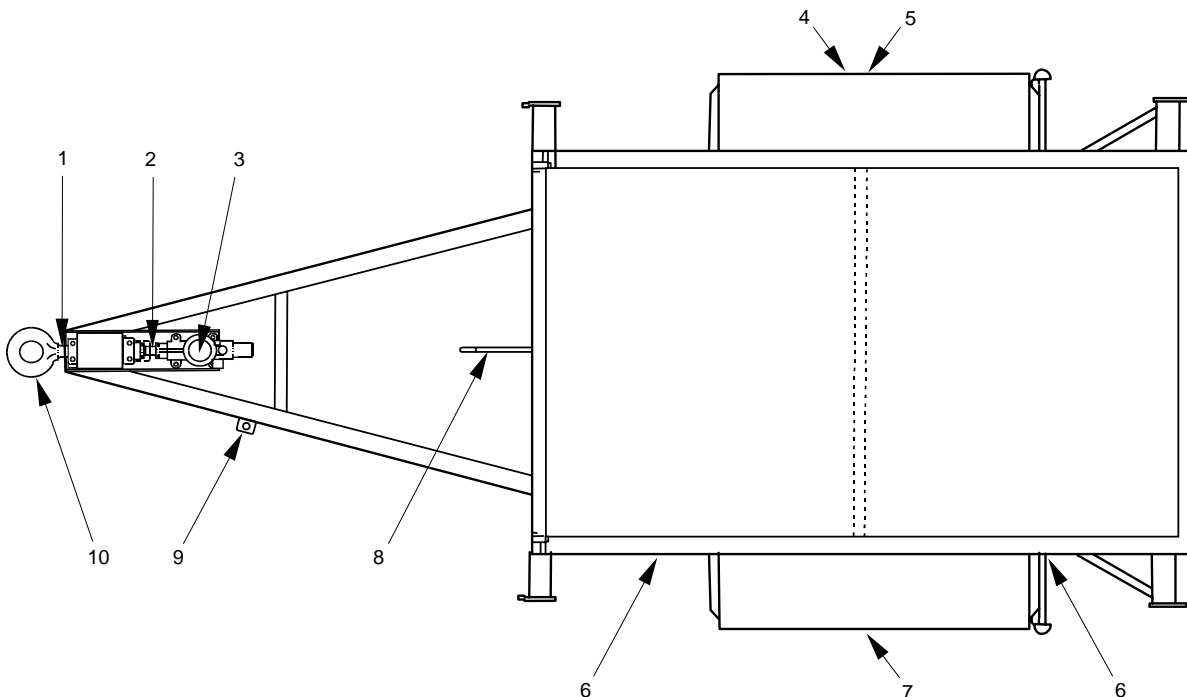

Figure 1 Servicing Points For Trailer, Lightweight, Cargo, 750 Kg (Haulmark), Mc2
1. This EMEI lists the requirements for servicing of the Trailer, Lightweight, Cargo, 750 kg (Haulmark), MC2. Figure 1 shows the servicing points for the Trailer and Table 1 details the servicing requirements.
Notes- All serial numbers refer to Figure 1.